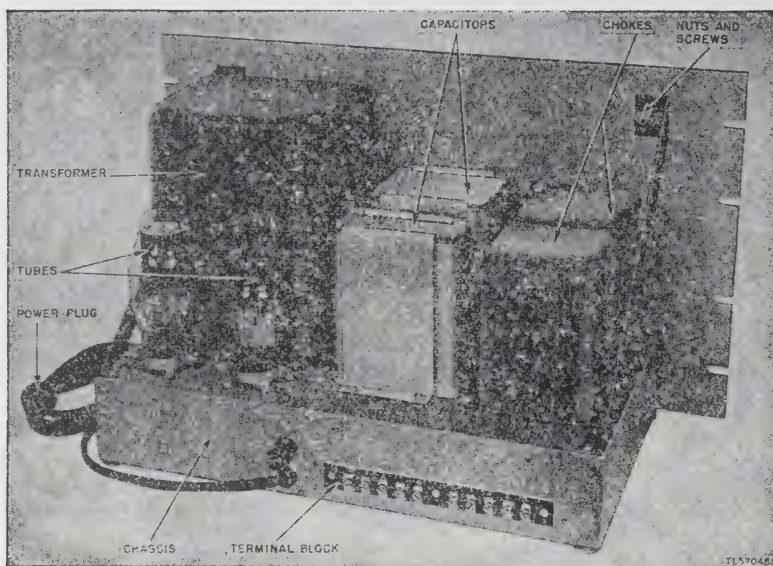

Figure 17. Power supply unit, typical preventive maintenance items, top view of chassis.
47. Item 4, Interior and Power Supply Unit (fig. 17)